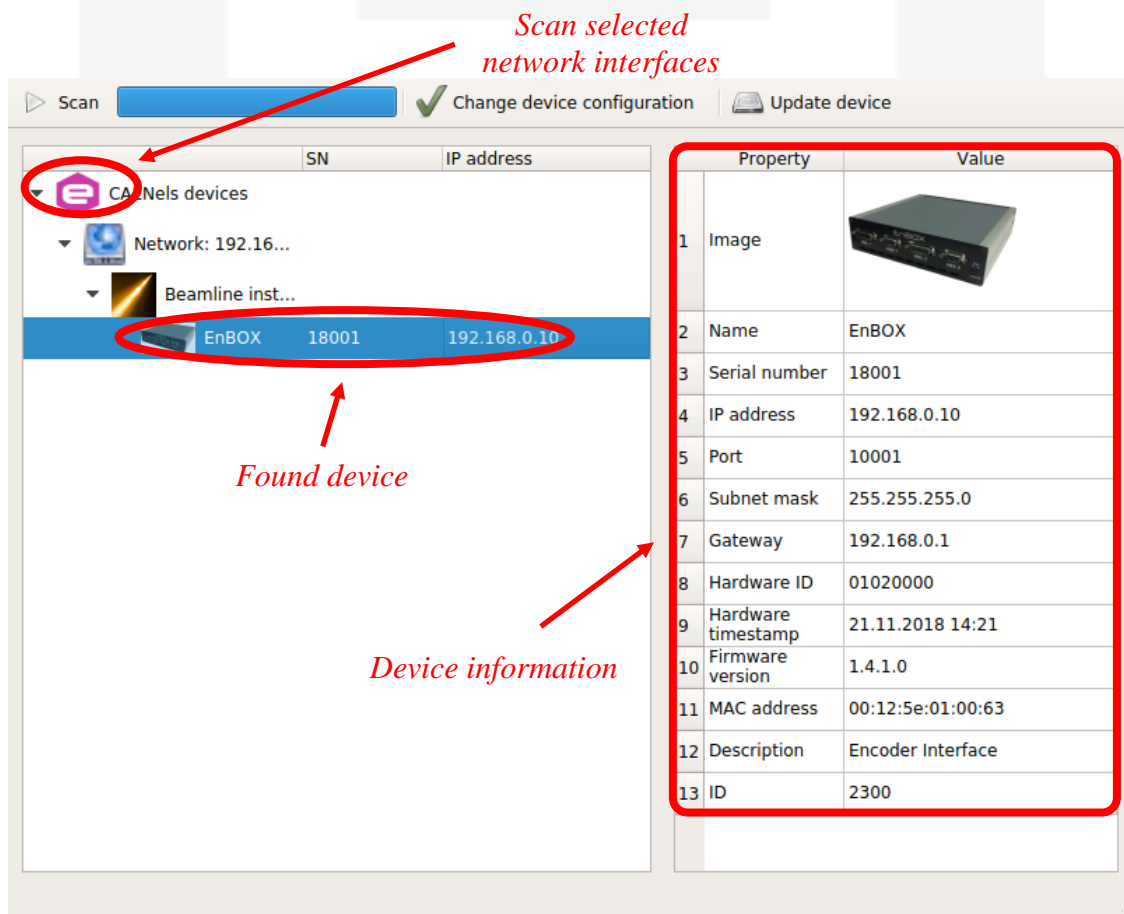

Figure 5: Main interface
- perform a scan to discover the connected EnBOX devices by clicking the “Scan” button as indicated in **Figure 5**. If there are multiple available networks it is possible to select the network/networks to be scanned in the “Selected network interfaces” window available under the “Options” menu. All the information about the selected devices is shown in the right side of the main window.